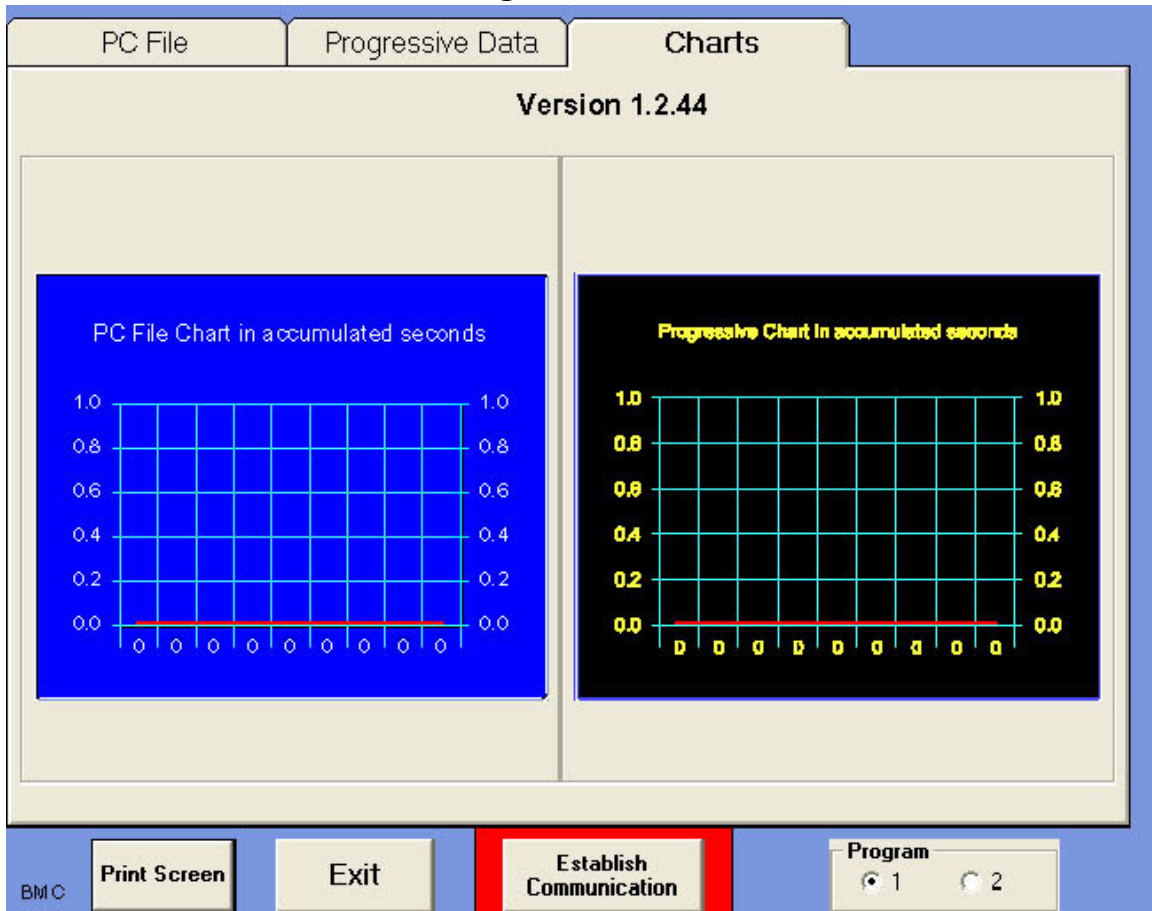

Figure 5
11. The “Charts” tab shown in *figure 5* is a way of visually comparing the PC File timer value program to the Progressive Value timer values program. To properly do this you need to follow this procedure: